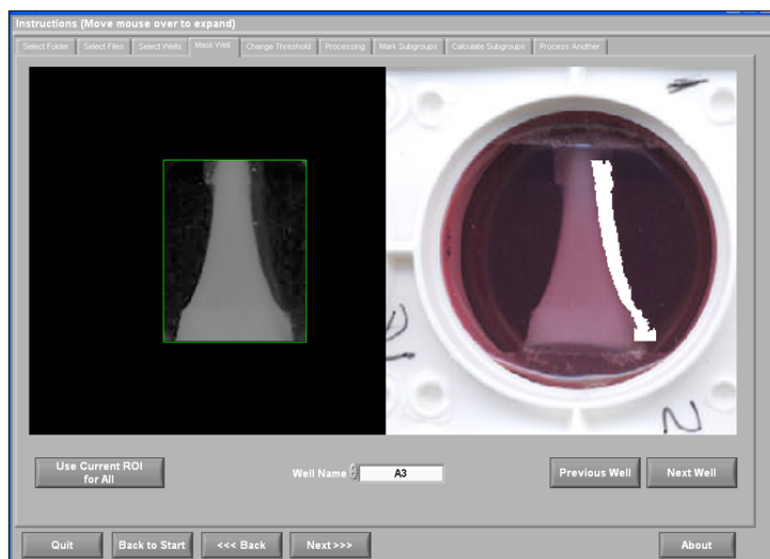

Figure 23. Selecting the Region of Interest (ROI)
- 1) The ROI rectangle may be relocated and resized to locate the best fit for the ROI (**Figure 23**). For BATs, the ROI is generally located from the end of one Tissue Train® nylon anchor to beginning of the opposite nylon anchor in respect to height and a width slightly wider than the widest measurement of cross section of the BAT.